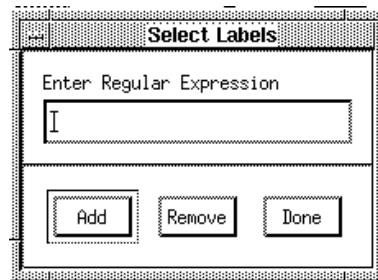

Figure 9.12: Labels Window
**Labels** This option is used to turn on or off the display of the labels for the circuit. The user simply enters the name of the label or regular expression (i.e. C shell) in the box provided and selects either **Add** or **Remove** to add or remove the label or expression. The user then selects **Done** and the effect is reflected in the display. Figure 9.12 shows the window for the **Labels** menu item.